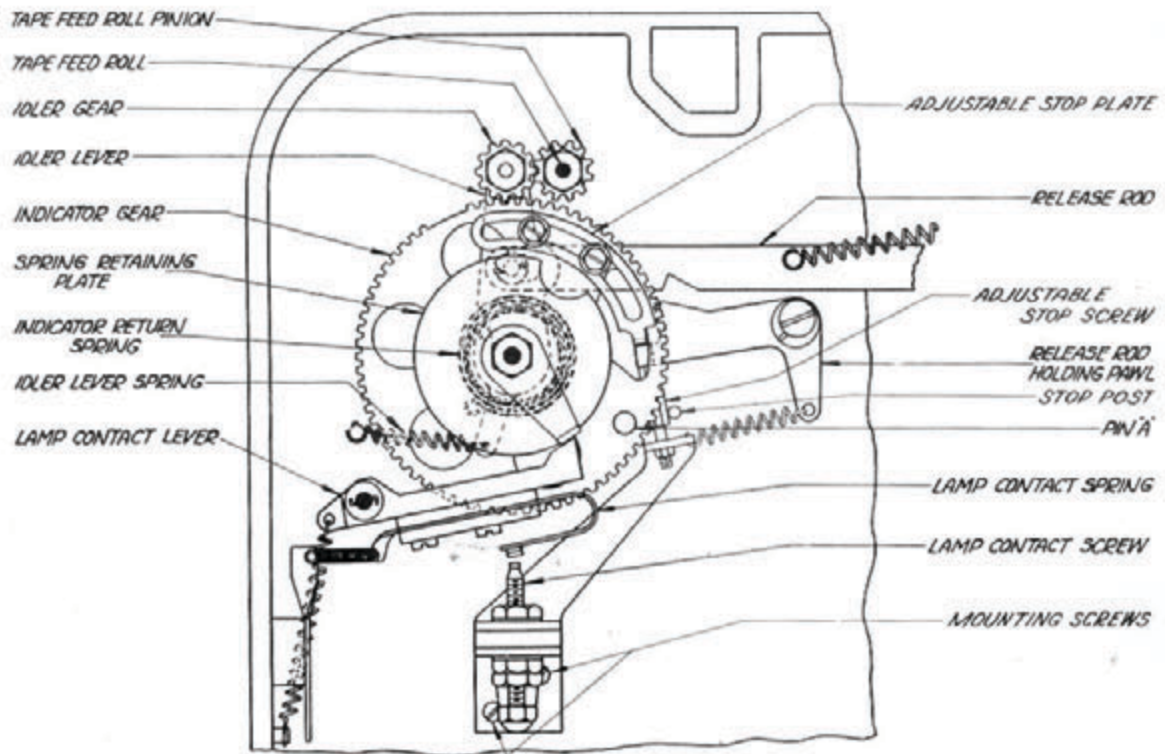

FIGURE 6
**\*\*Indicator Gear Stop Plate Adjustment (Figure 6) - See Note (A)**